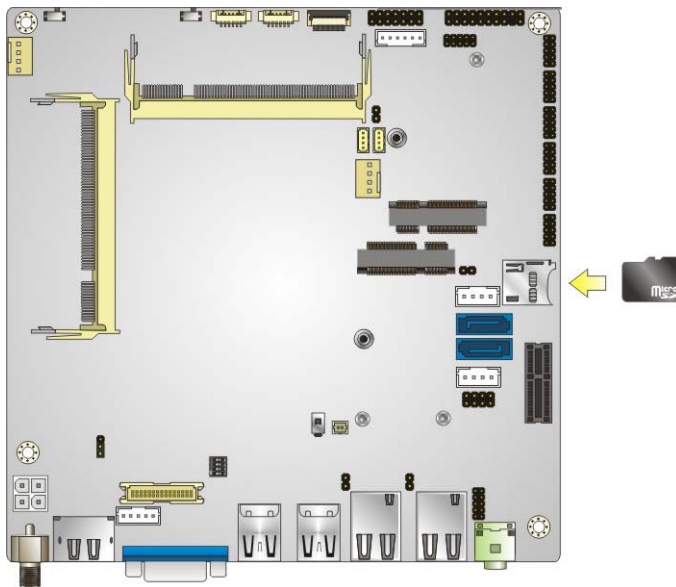

Figure 4-2: microSD Card Installation
Step 1: Locate the microSD slot. See **Figure 4-2**.
Step 3: Insert the microSD card. Push until the microSD card is firmly seated in the slot. See **Figure 4-2**.